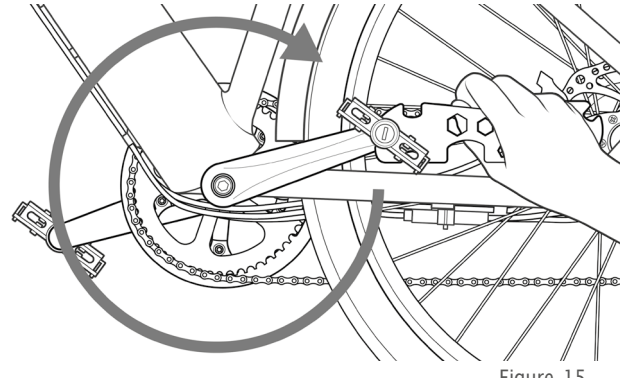

Figure 15
5.3 The left pedal has left-hand threading, meaning it threads **COUNTER-CLOCKWISE**. Once it is threaded in a couple turns, it can be quickly threaded in the rest of the way by holding the flats of the pedal axle with the provided tool and pedaling backwards, as shown in Figure 15. Tighten this well.